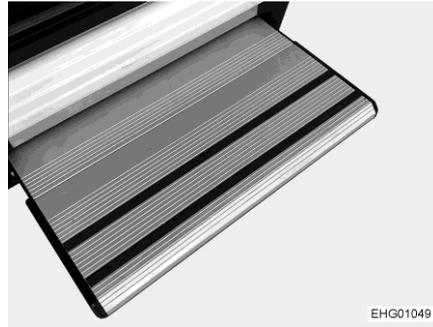

Fig. 5 Entrance step
- ▷ Do not grease or oil the moving parts of the entrance step (Fig. 5) (see Chapter 11).